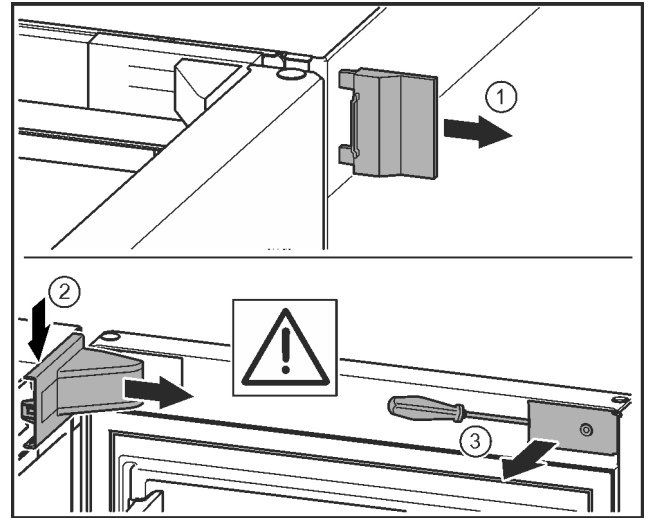

Fig. 21*
- ▶ Remove the outer cover.* Fig. 21 (1)
- ▶ Disengage and release the bearing bracket cover. Remove the bearing bracket cover.* Fig. 21 (2)
- ▶ Unlatch the panel with a slotted screwdriver and swivel it to one side.* Fig. 21 (3)